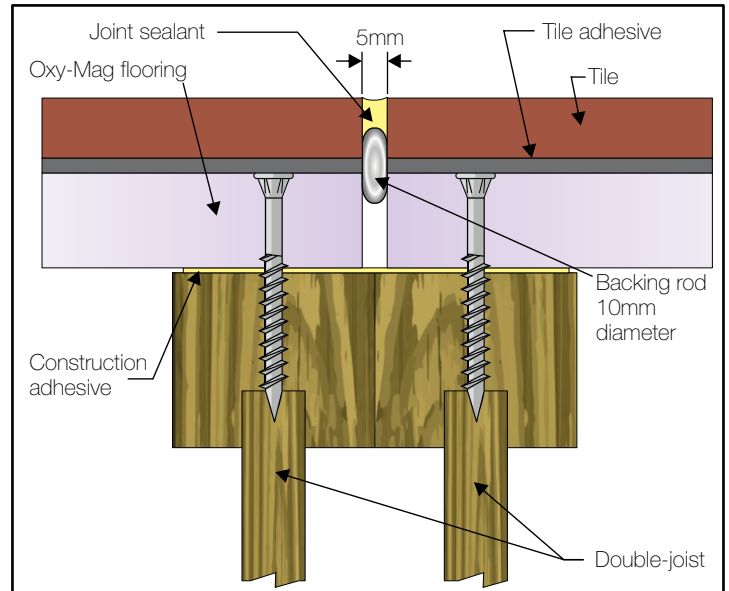

FIGURE 9 - CONTROL JOINTS: INTERNAL BOARD AND TILE JOINT
- a. Control joints in the floor boards and extending through the tiles (see Figure 9 below for an example of an internal control joint) are to be provided in the below applications as follows (unless compelled to do otherwise by the NCC, BCA and / or local regulations):